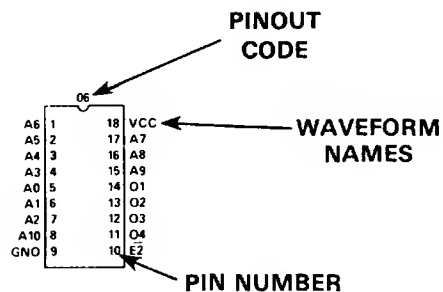

Figure 4-5. Pin Names by Pinout Code
4. WAVEFORM NAMES—correspond to the pin names on the pinout chart (figure 4-5); the pinout chart tells you which socket pins to probe when you are observing the
waveforms for a particular device pinout within a family. (The pinout is indicated by the number above each socket on figure 4-5 which corresponds to the pinout code on table 1-1).
- BIT NO PROG—always use the 02 (bit 2) contact shown on figure 4-5.
- BIT TO PROG—always use the 01 (bit 1) contact shown on figure 4-5.